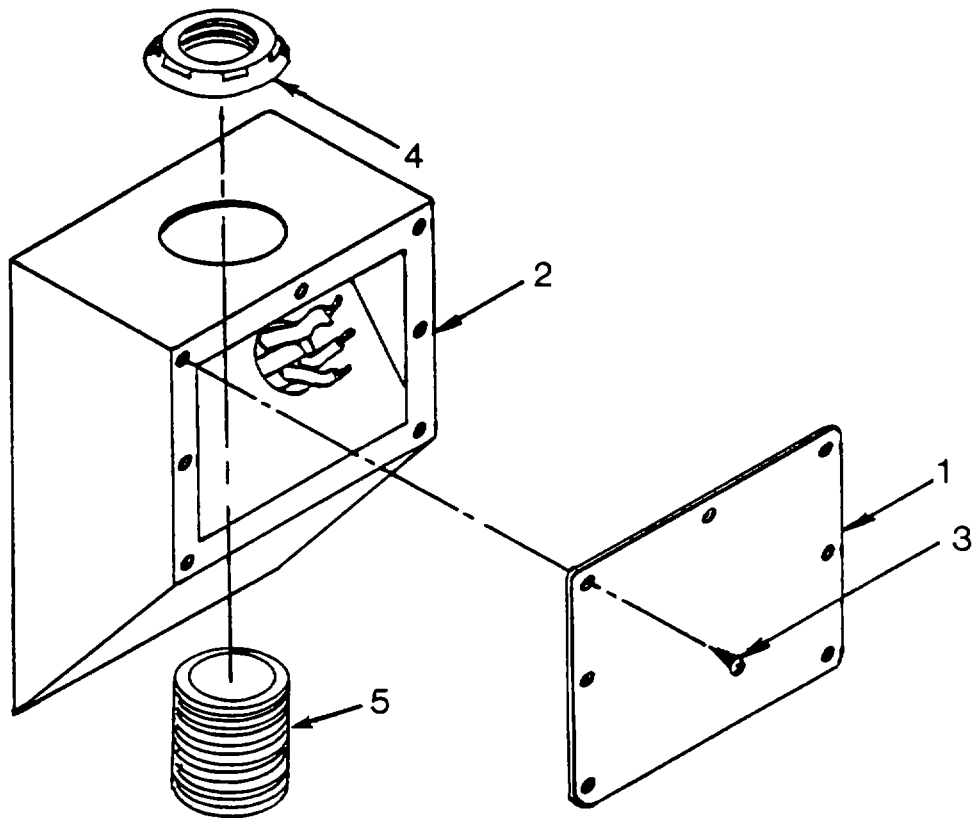
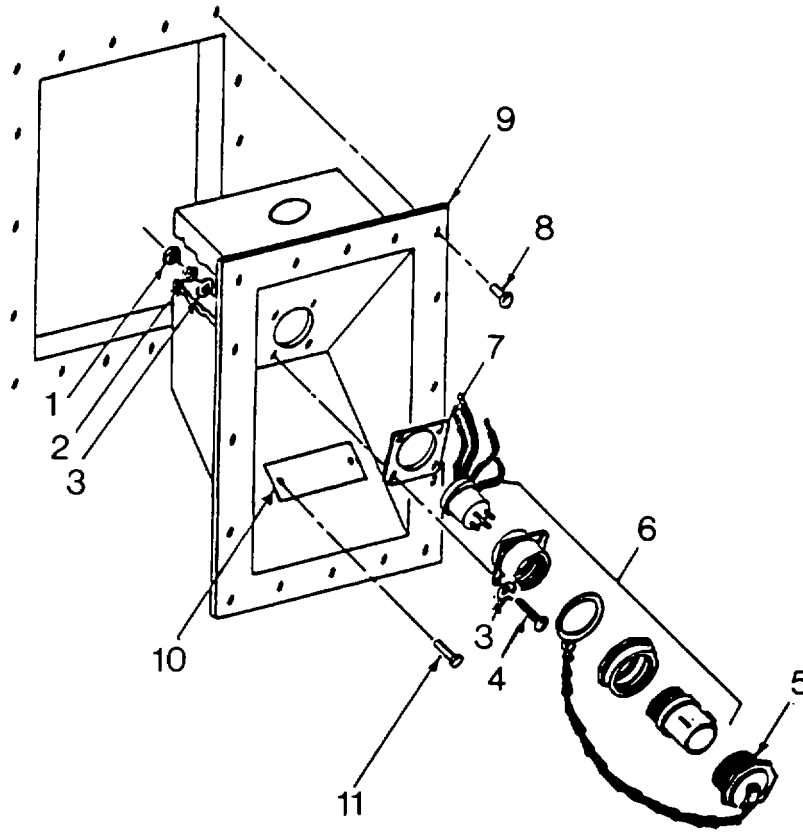
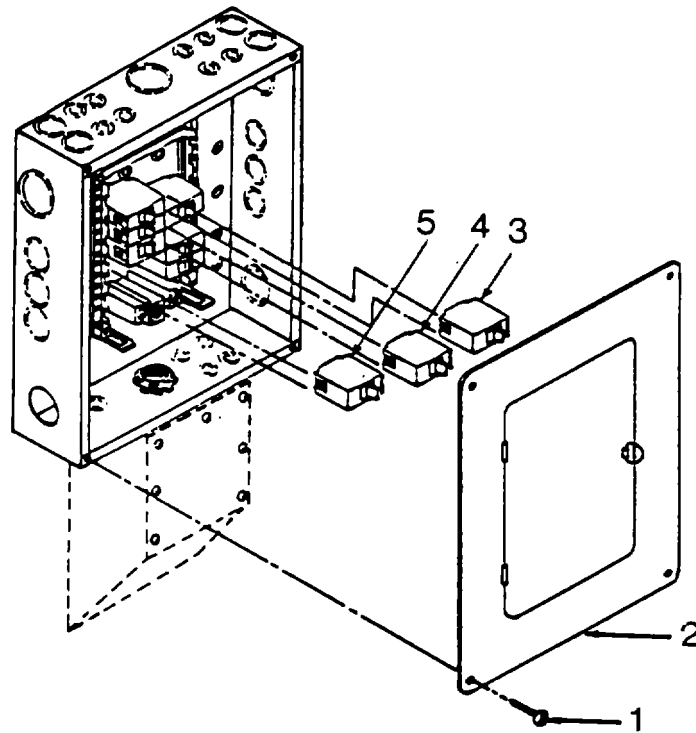

Figure 5-2. Main Power Cable Receptacle Assembly (Inside Shelter)
Figure 5-3. Main Power Cable Receptacle Assembly (Outside Shelter)
Figure 5-4. Main Power Service Assembly
a. Inspect. (See Figure 5-2.)
- (1) Inspect main power receptacle of outside rear wall of shelter for general condition and security of mounting.
- (2) Inspect electrical connector pins of outside rear wall of shelter for damage and corrosion.
- (3) Inspect knurled, threaded female portion of outside rear wall of shelter for thread damage and corrosion.
- (4) Inspect protective cap and chain of outside rear wall of shelter for damage and security of chain attachment.
- (5) Inspect electrical shield and mounting screws of outside rear wall of shelter for damage, security, and correct sealing.
- (1) Remove receptacle access plate (1, Figure 5-2) from receptacle box (2) (inside shelter) by removing attaching screws (3).
(2) Remove door and cover assembly (2) from main power service assembly by removing attaching screws (1). (See Figure 5-4.)
(3) Tag and unsolder four main electrical wires of main power service assembly from terminals. Remove conduit nut (4, Figure 5-2), conduit bushing (5) and wiring clamps as necessary.
(4) Remove nuts (1, Figure 5-3), lockwashers (2), flat washers (3), and screws (4) from main power receptacle.
(5) Remove cap (5), receptacle (6), and gasket (7) from recessed receptacle box.
(6) Remove rivets (8) from recessed receptacle box by drilling or chiseling off heads.
- (7) Remove receptacle box (9) from shelter wall.
- (8) Remove data plate (10) (power requirements) from receptacle box by drilling out rivets (11).
- (9) Position data plate (10) (power requirements) on receptacle box (9), match drill holes, and secure with rivets (11).
- (10) Position receptacle box (9) in shelter wall opening and secure with rivets (8).
- (11) Install gasket (7), main power receptacle (6), and cap (5).
- (12) Install screws (4), flat washers (3), lockwashers (2), and nuts (1).
- (13) Install conduit bushing (5, Figure 5-2) and conduit nut (4).
- (14) Solder four main electrical wires to terminals in the main service assembly. Install tie wraps as necessary.
- (15) Position receptacle access plate on receptacle box (2) and secure with screws (3).
- (16) Position door and cover assembly (2, Figure 5-4) on service box and secure with screws (1).
c. Repair. (See Figure 5-2 and figure 5-3.)
a. Inspect. (See Figure 5-4.)
- (1) Inspect main power service box assembly of curbside of rear wall for dents, corrosion, and security of mounting.
- (2) Inspect door and hinge on main power service box assembly for ease of movement, complete closure, proper latching, and legible circuit decals.
- (3) Inspect circuit breaker aperture blanks for presence and security of mounting.
- (4) Inspect circuit breakers for proper operation and security of mounting.
b. Repair. (See Figure 5-4.) - Continued
- (1) Remove circuit breaker panel cover (1) by removing cover attachment screws (2).